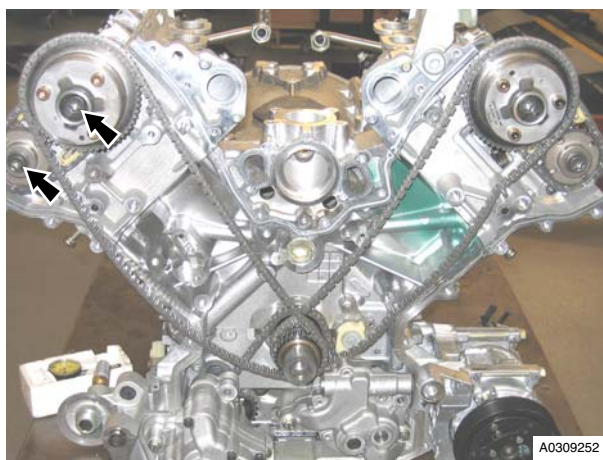

Figure 1
2. Remove the two M12 Torx bolts that attach the inlet and exhaust camshaft sprockets to camshafts (refer to Figure 1).